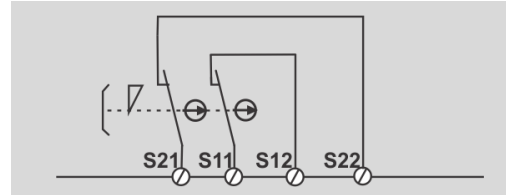

Figure 4 - Emergency stop button
See figures 4 until 7.
- Product suitable for the emergency stop devices at safety inputs, as shown in Fig. 4 until 7.